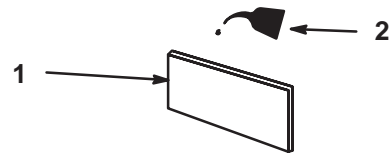

Figure 32
3. Soak element in new engine oil. (Fig. 32). Squeeze the element to remove excess oil.